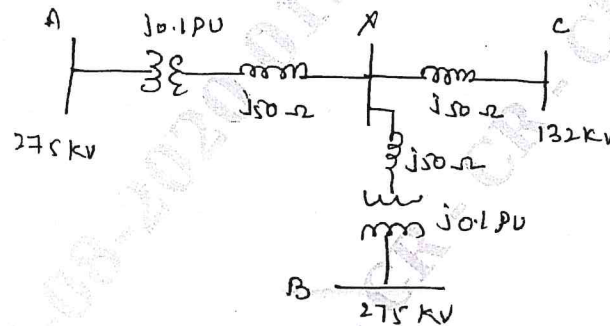

Fig Q8(b)
b. 3 – generating stations are connected to a common bus-bar X, as shown on Fig.Q8(b) for a particular system load, the line voltage at the bus bar falls by 2 KV. Calculate the reactive power injection required to bring back the voltage to the original value. All PU values are on a 500 MVA base.